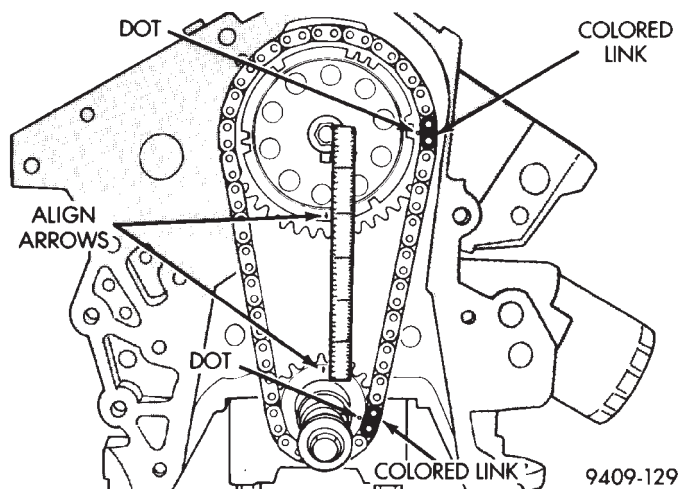

Fig. 47 Timing Marks Alignment
(5) Use a straight edge to check alignment of timing marks (Fig. 47).
(6) Install camshaft bolt and washer. Tighten to 54 N·m (40 ft. lbs.).
(7) Rotate crankshaft 2 revolutions. Timing marks should line up. If timing marks do not line up remove cam sprocket and realign.
(8) Check camshaft end play. With new thrust plate the specification is 0.0127 to 0.304 mm (0.005 to 0.012 in.). Old thrust plate specification is 0.31 mm (0.012 in.) maximum. If not within these limits install new thrust plate.